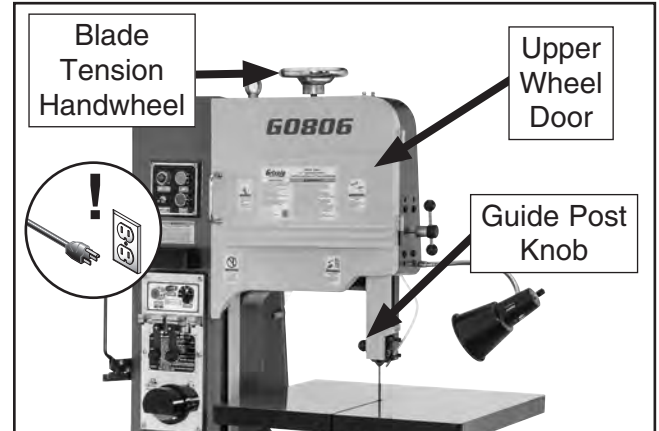

Figure 22. Guide post knob and blade tension handwheel.
3. Use the guide post knob (see **Figure 22**) to raise the upper blade guides to the highest position.
5. Use the blade tension handwheel (see **Figure 22**) to make adjustments until the blade is properly tensioned.